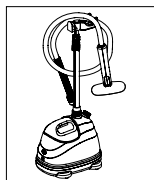

Figure 9
- Coil the hose and place on the hanger attachment (Fig. 9)